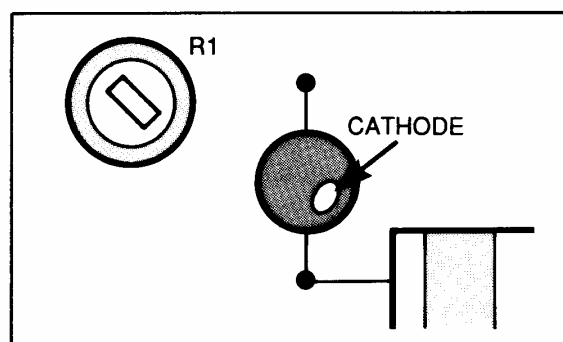

Figure 8-6. Proper diode orientation.
- n. Orient the replacement diode so that the white dot (cathode) is positioned as shown in Figure 8-6.